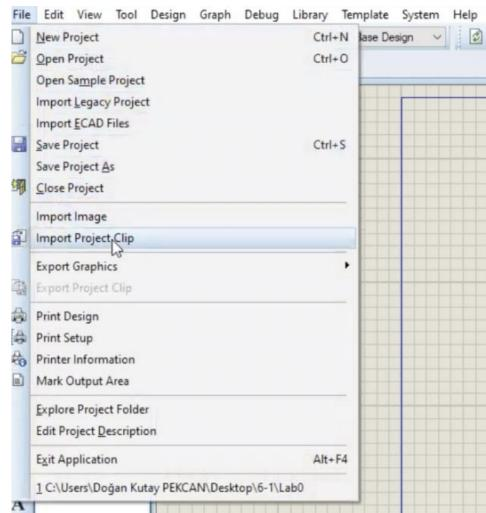
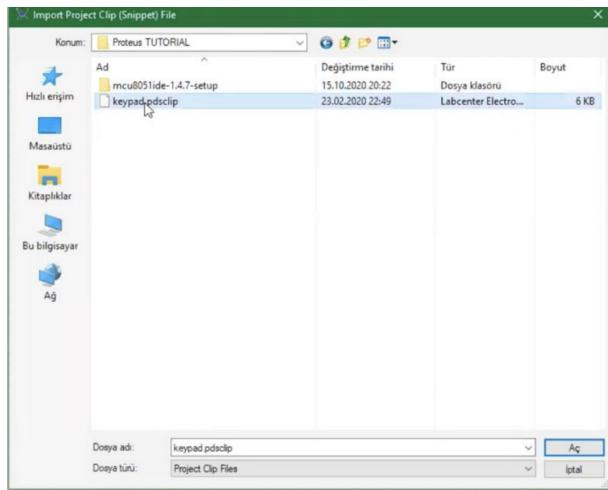
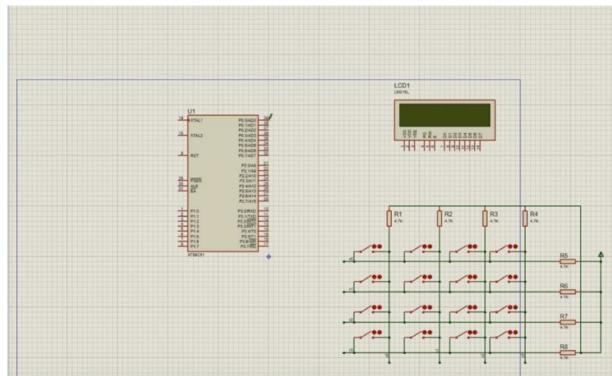

Figure 11: How to find the Import Project Clip section.
Figure 12: In the 'Import Project Clip' section, select the "keypad.pdsclip" file to add the keypad to your Proteus project.
Figure 13: You can see that keypad is added to your project.
5. Please download the file ”keypad.pdsclip” provided in the folder. In the ‘Import Project Clip’ section (Figure 11), select the ”keypad.pdsclip” file (Figure 12) to add the keypad to your Proteus project. Then you can observe the keypad added to your project (Figure 13).